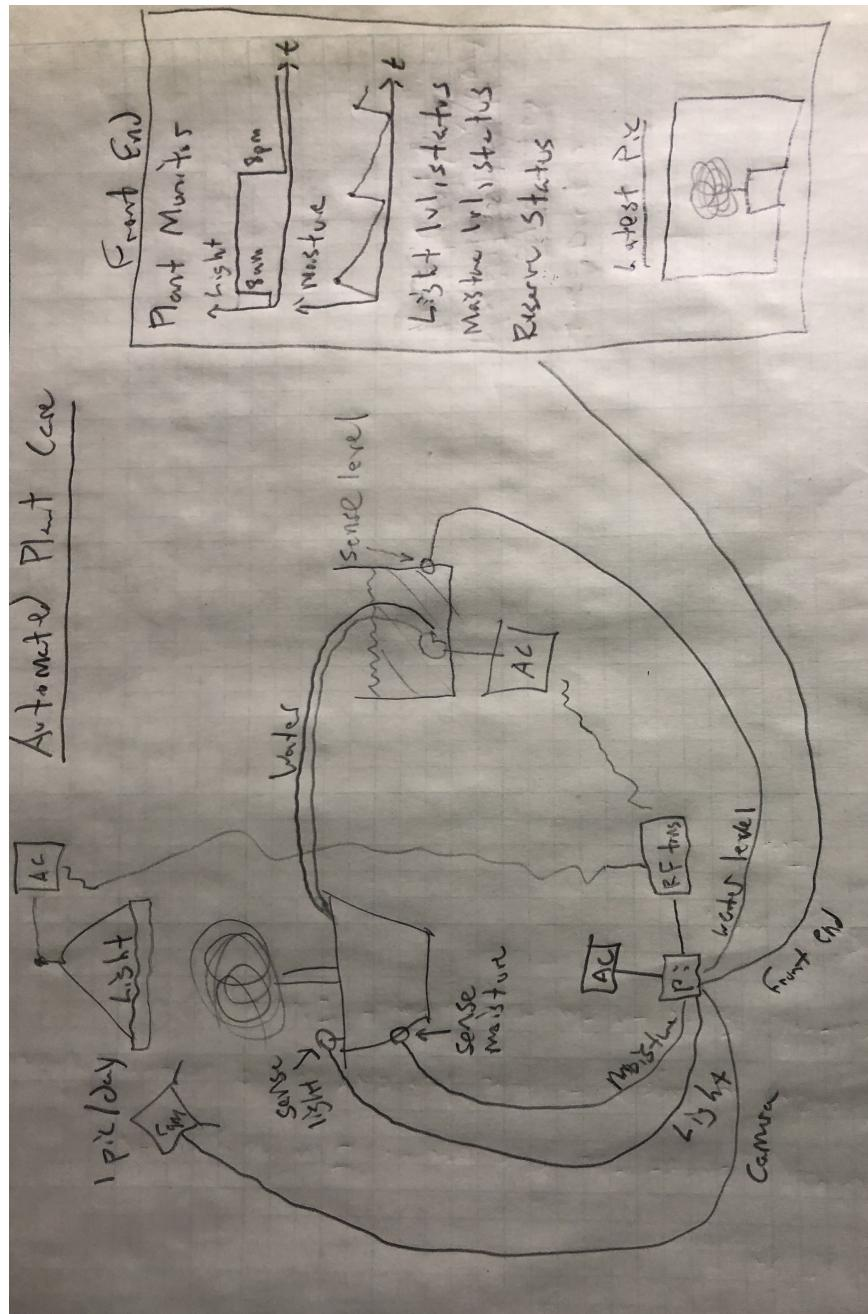

Figure 1: Schematic of plant automation system.
The two fundamental pieces of equipment are the light and the pump, and what they both have in common is that they run on AC power. Obviously, the controller for all of this – a Raspberry Pi – is only equipped to handle DC circuits at either 3.3 or 5 volts. While it's possible to do something with relays, nobody wants to explain their neat project to an angry fire marshal. Thus, for safety reasons, it has been elected to use a radio frequency (RF) transmitter paired with RF outlet switches to enable switching of the pump and light. This has an added benefit of greater freedom for routing power. The remainder of equipment to be used is given in the table below, and Fig. 1 provides a schematic.